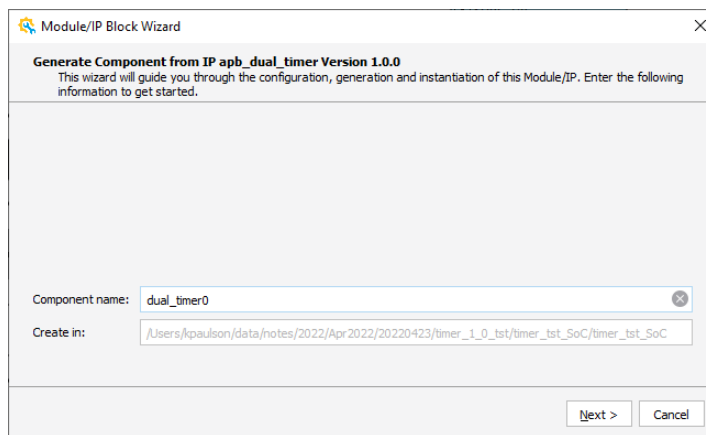

Figure 6.1. Module/IP Block Wizard
1. In the **IP Catalog** tab, double-click the *APB_DUAL_TIMER* IP. The **Module/IP Block Wizard** opens as shown in Figure 6.1. Enter a name for the IP block in the **Component name** text box and click **Next**.